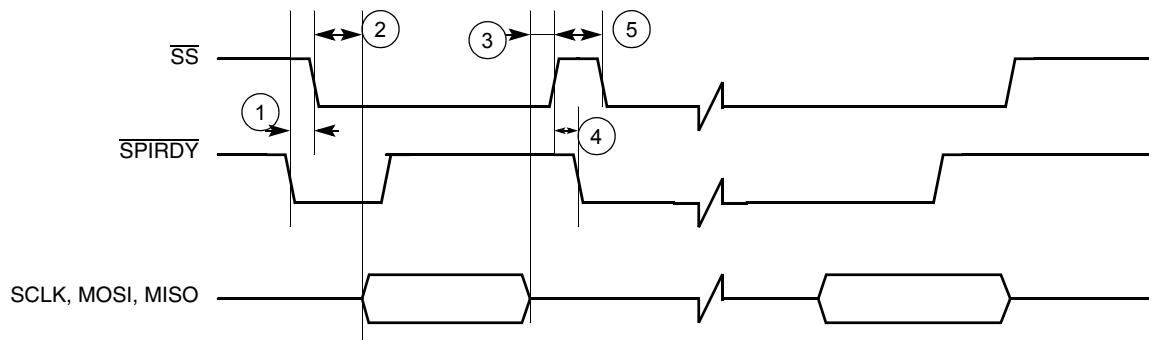
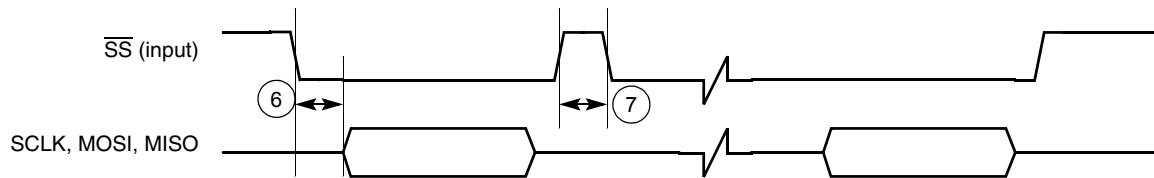

Figure 36. Master SPI Timing Diagram Using $\overline{SPI_RDY}$ Edge Trigger
Figure 40. Slave SPI Timing Diagram FIFO Advanced by SS Rising Edge
To utilize the internal transmit (TX) and receive (RX) data FIFOs when the SPI 1 module is configured as a master, two control signals are used for data transfer rate control: the \overline{SS} signal (output) and the $\overline{SPI_RDY}$ signal (input). The SPI 1 Sample Period Control Register (PERIODREG1) and the SPI 2 Sample Period Control Register (PERIODREG2) can also be programmed to a fixed data transfer rate for either SPI 1 or SPI 2. When the SPI 1 module is configured as a slave, the user can configure the SPI 1 Control Register (CONTROLREG1) to match the external SPI master's timing. In this configuration, \overline{SS} becomes an input signal, and is used to latch data into or load data out to the internal data shift registers, as well as to increment the data FIFO. Figure 36 through Figure 40 show the timing relationship of the master SPI using different triggering mechanisms.
Table 13. Timing Parameter Table for Figure 36 through Figure 40